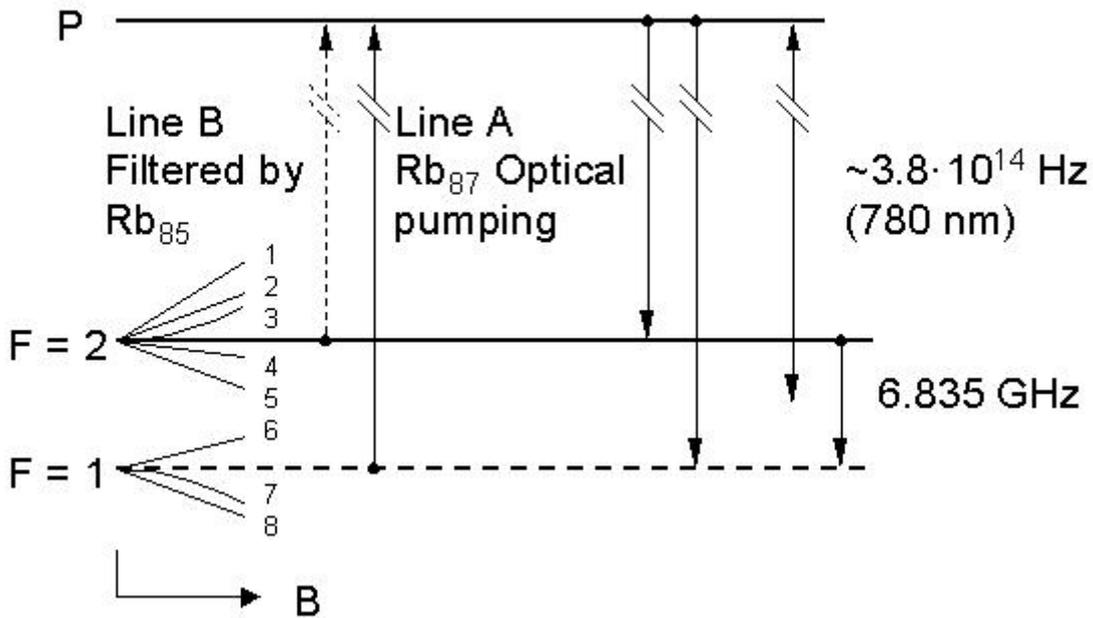

Fig. 2-1: Energy levels and transitions in Rb87 atoms during SRO-100 operation.
In order to detect the clock transition between these two levels, the atoms need to be manipulated in such a way that most of them occur in only one level. This is done by optical pumping via a higher lying state (P). Fig. 2-1 visualises the atomic energy levels and transitions involved in the optical pumping process.